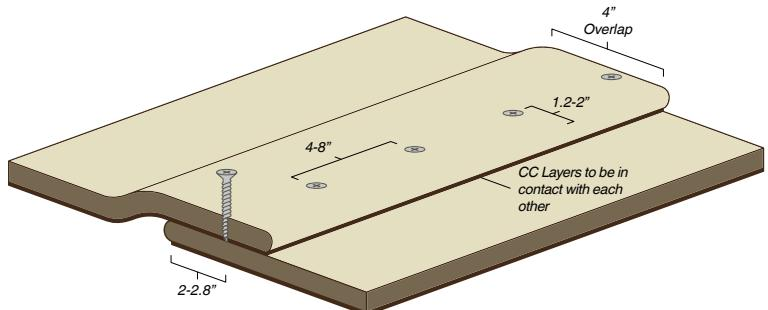

Figure 5.2 Standard screwed overlap joint
3. Installation of Screws: Once hydrated CC has a 1-2 hour working time in ambient temperatures of 50-72°F reduced in  warmer climates). Screws must be applied before setting begins so the concrete within CC will set around the thread of the screws. The screws should be applied at 8" spacing (maximum 4" in warmer climates) and 1.2-2.0" from the edge of the CC, see Figure 5.2.